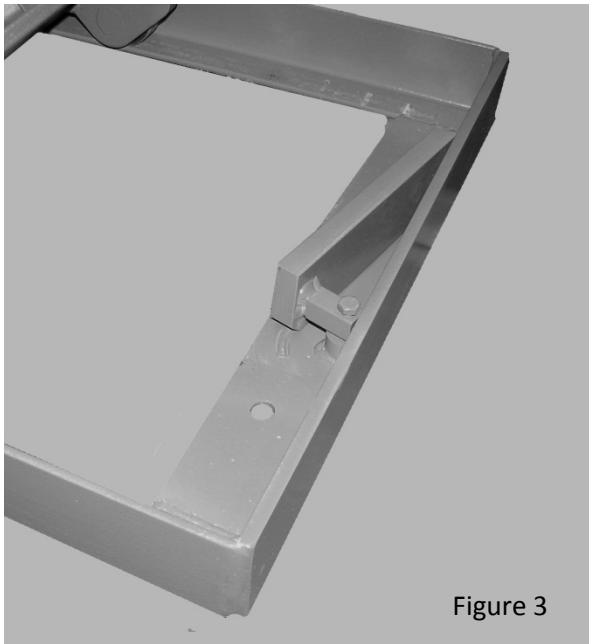

Figure 3
2. Figure 3 shows the maintenance device in the stored position.